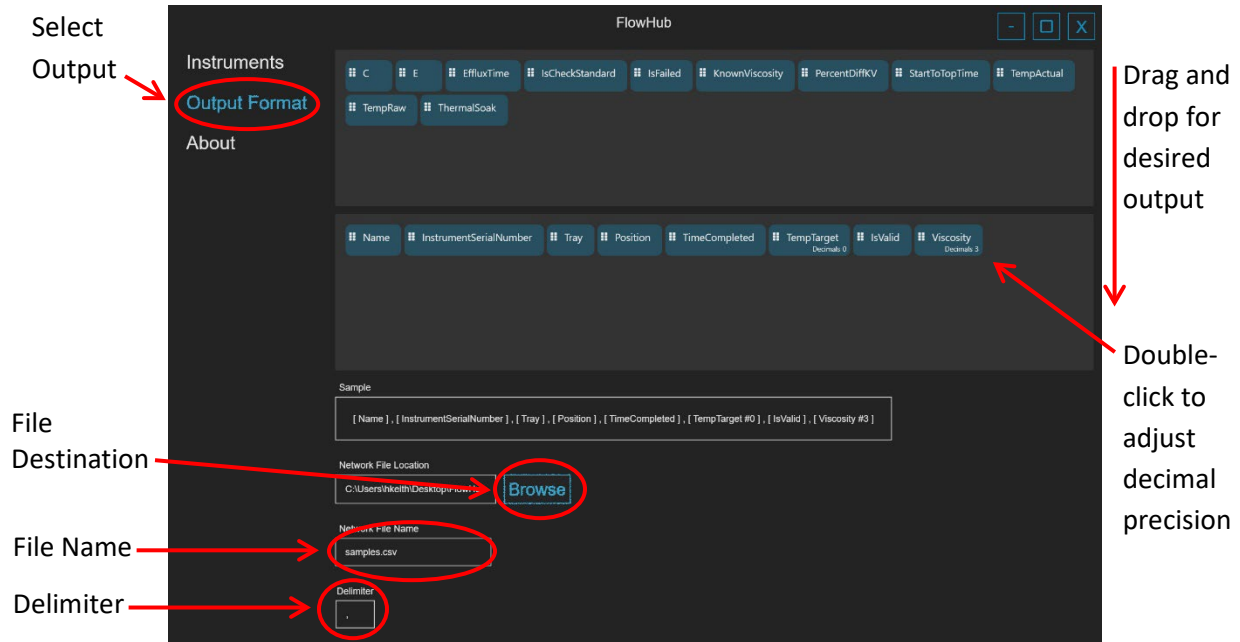

Figure 65: FlowHub Output Format Screen
3. Setup Output Format in FlowHub. See Figure 65.